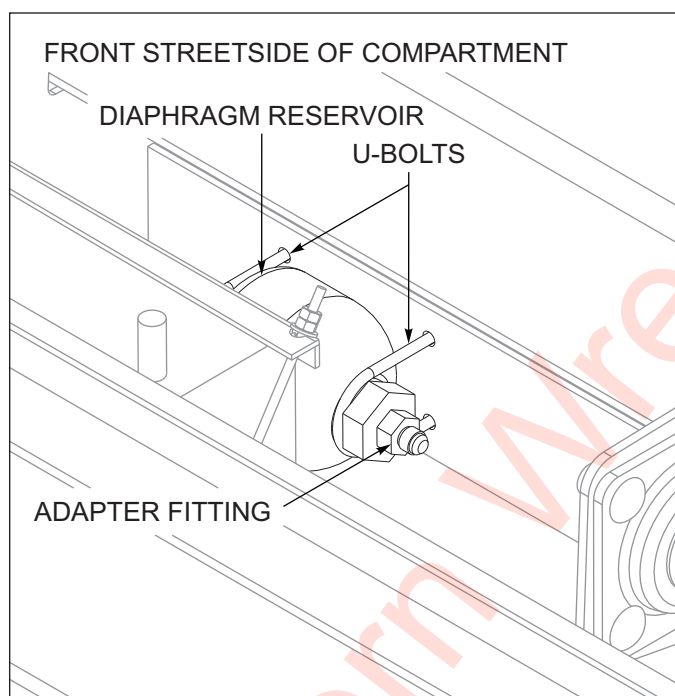

Figure 5-28: Diaphragm Reservoir
11. Loosen one hydraulic hose enough from the diaphragm reservoir fitting, to bleed off any residual pressure remaining in the hose. *See Figure 5-28 on Page 5-54.*
1. Position the diaphragm reservoir into the power unit storage compartment. **See Figure 5-28 on Page 5-54.**